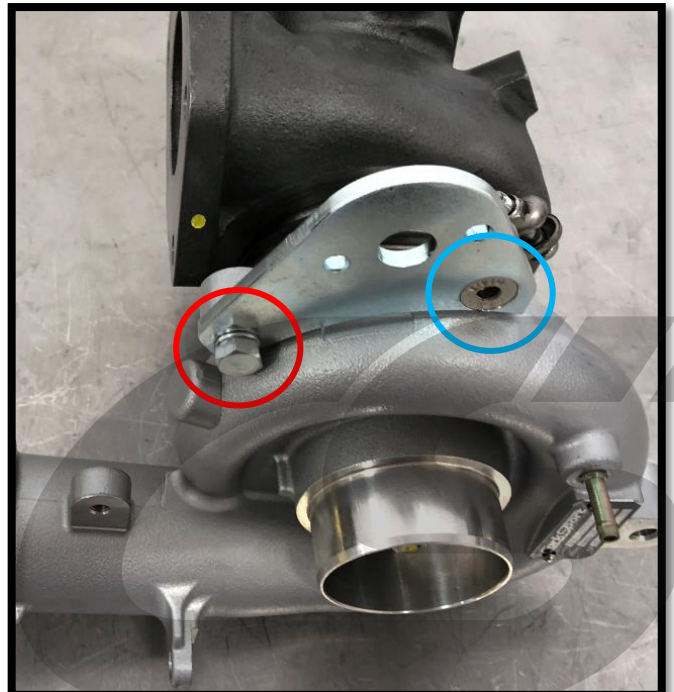

Figure 1e
- f) Using a 12mm socket and ratchet, remove the hex bolt that attaches the IWG bracket to the compressor cover. Shown circled in red in **Figure 1e**.
- g) Using a 5mm Allen wrench or hex socket, remove the counter sunk bolt that attaches the IWG bracket to the compressor cover. Then, remove this bracket. Shown circled in blue in **Figure 1e**.